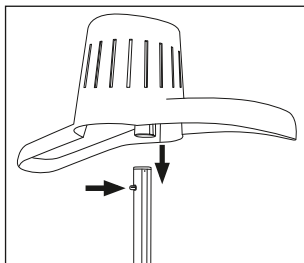

Fig. 1: Attaching the hanger ①
- To remove the telescopic shaft ❹ again if necessary, press the release button  ❼ and pull out the telescopic shaft ❹.
- ◆ Adjust the height of the telescopic shaft ❹. Open the locking clip ❸, pull out the telescopic shaft ❹ to the desired height and tighten the locking clip ❸ again. Pull the telescopic shaft ❹ far enough out so that the hanger ❶ can be attached.
- ◆ Place the hanger ① on the telescopic shaft ④ so that the curved arms face the front of the appliance. Push the locking stud ② in and slide the hanger ① over it until the locking stud ② engages (Fig. 1).